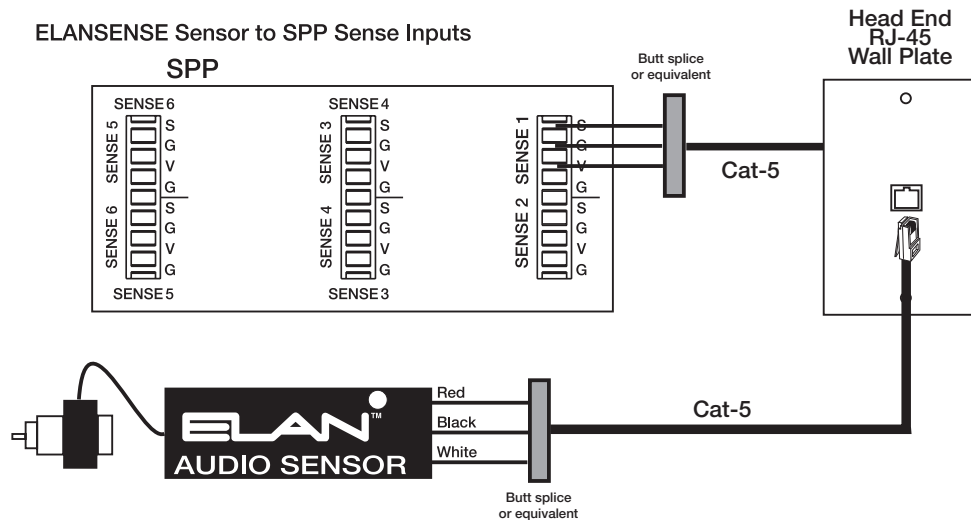

Figure 3-12: Sense Input to SPP Connections
The Sense Trigger Inputs of the S86A are primarily for use with VIA! Touch Panels and Olé Touchpads. An ELAN™SENSE Sensor can be connected that will cause VIA! Touch Panels and Olé Touchpads to execute IR or serial commands. Use VIA!TOOLS or ELANTOOLS setup software to program Trigger Input functionality. Wiring the Sense Inputs consists of punching down Voltage (V), Sense (S), and Ground (G) as shown in **Figure 3-12**.